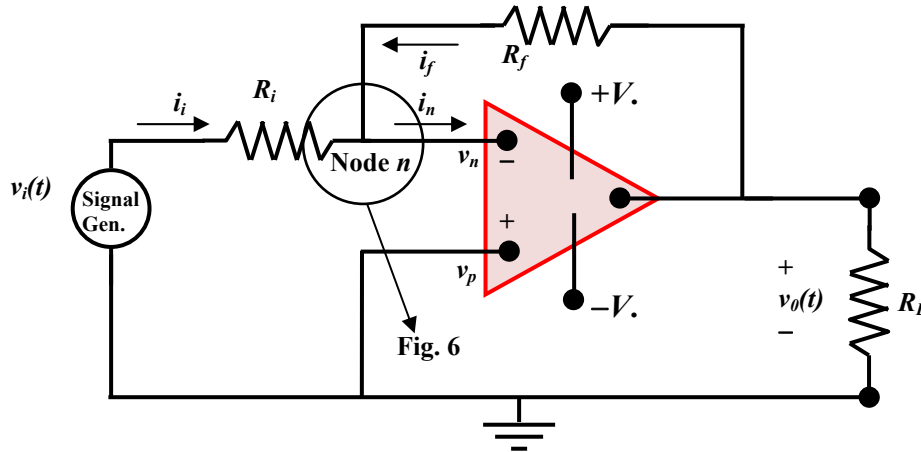

Figure 5. Op amp negative feedback circuit.
3.2.1. In Fig. 5, the input is $v_i(t)$ and the output signal is $v_o(t)$. The circuit resistors are R_i (input resistor), R_f (feedback resistor), and R_L (load resistor). Input voltages are $\pm V$.
3. **Exercise:** We developed some basic relationships for the negative-feedback operational amplifier circuit described in 3.2.2 and 3.2.3 (Figs. 5 and 6).